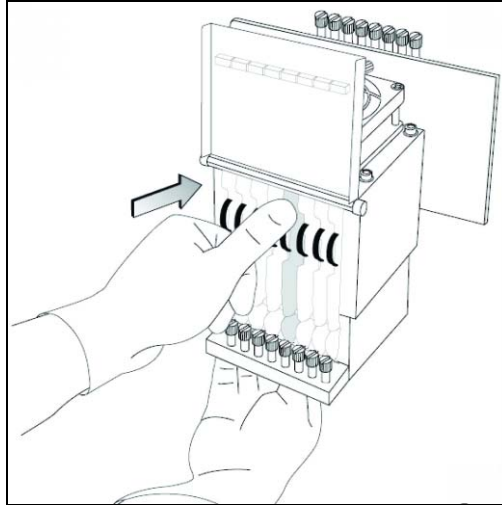

Figure 6-64: Inserting the print-head driver card into its socket
- b. Re-insert the print-head driver card into its socket (see figure 6-64 on page 46).